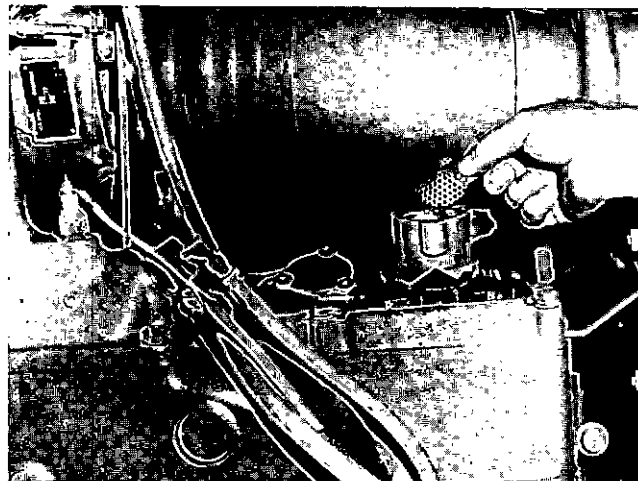

Fig. 2-19 (N11934) Crankcase breather — screen type
2. Remove capscrews, washers, cover, screens and baffle if used, from breather body, Fig. 2-19.